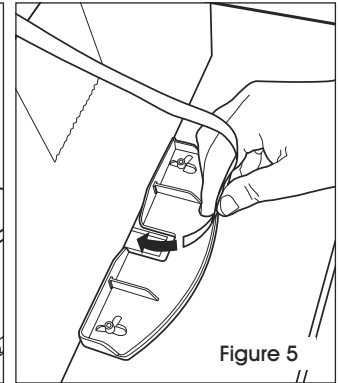

Figure 5
- b. Pass strap around package and insert the strap end into the strap inlet to start the strapping tensioning and heat sealing cycle. (See Figure 5)
Strap does not feed past the in-feed guide.	1. Ensure tension is not turned down too low. 2. Ensure strap is loaded properly and is on top of brake arm roller. 3. Ensure length knob is not turned all the way down. 4. If strap still does not feed automatically: a. Hand-feed strap until it comes through and out the top door. b. If unable to feed the strap through the top door, either the strap outlet is too tight or the jam is under the roller assembly. 5. If using 1/2" strap, outlet guide should look like Figure 5. For narrower strap, tap in until strap has very little side-to-side movement but can still move freely in the guide. 6. If strap outlet is not the problem, the strap guide will need to be disassembled. a. Remove socket head bolts, loosen set screw and tap out pin. (See Figure 6) b. Lift shaft holder off and clean out guide. c. Reinstall pin, tighten set screw and install socket head bolts.